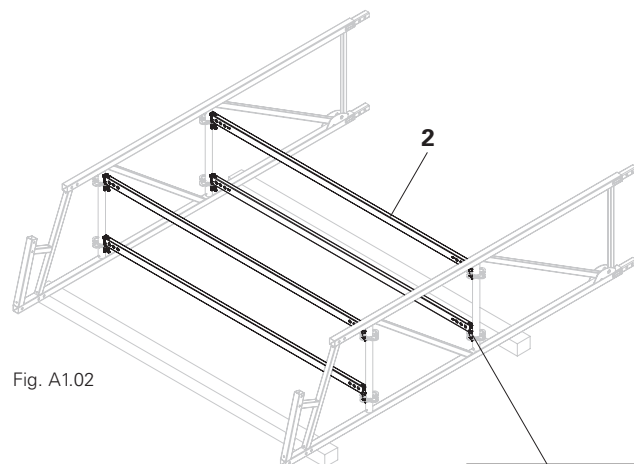

Fig. A1.02
2. Attach horizontal ledgers (2) to the rosette on both sides (1.1) using the ledger heads and wedges (2.1). (Fig. A1.02)